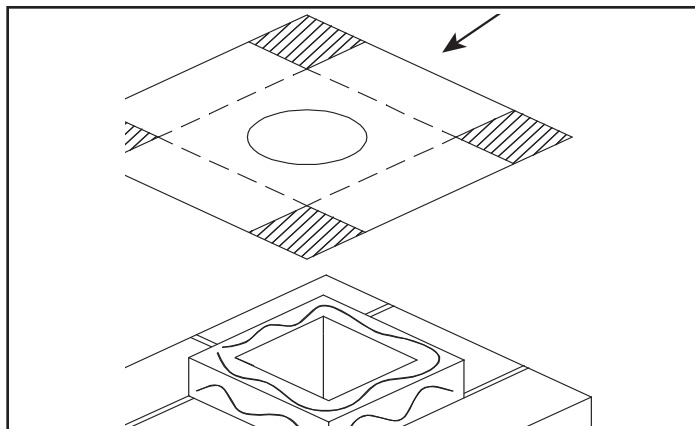

Figure 4.26
3. Secure the flashing to the top of the masonry chimney using a bead of non-hardening sealant-adhesive. If the flashing is larger than the top of the chimney, cut and fold flashing as needed to fit chimney, Figure 4.26.